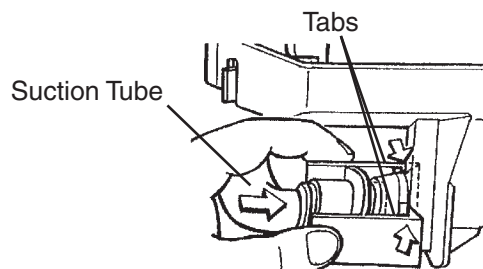

Fig. 32
7. Reconnect the suction tube as illustrated. See Fig. 32. Make sure the tabs lock into place; a loose fitting may cause a water leak.